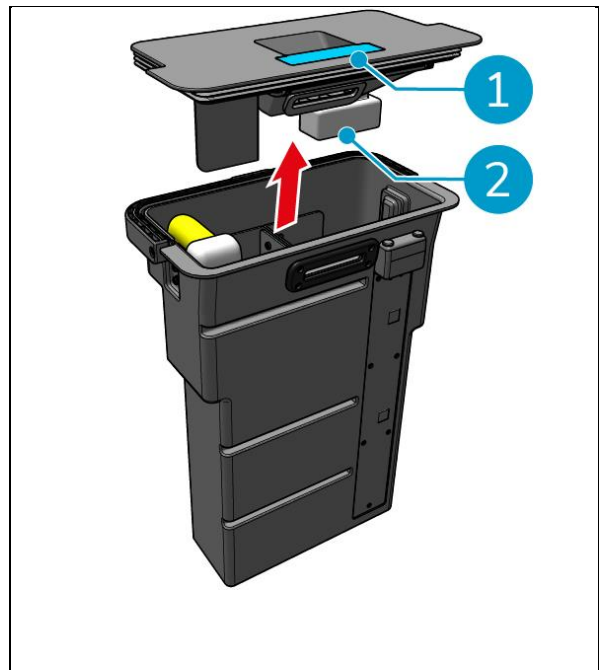

Figure 31
3. Remove the lid of the recovery tank (Figure 31, pos. 1).
8. Clean the float (Figure 31, pos. 2) and check that it moves freely.